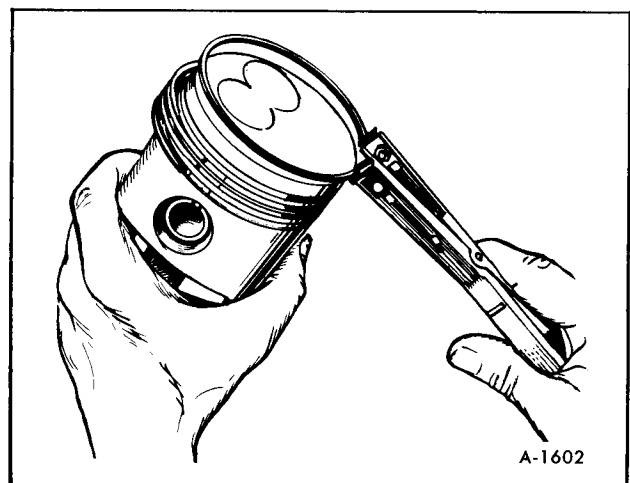

Figure 13—Removing Piston Rings
5. Remove the piston rings from the piston with a piston ring spreader as shown in Figure 13. Remove the piston retainer and push the piston pin out.